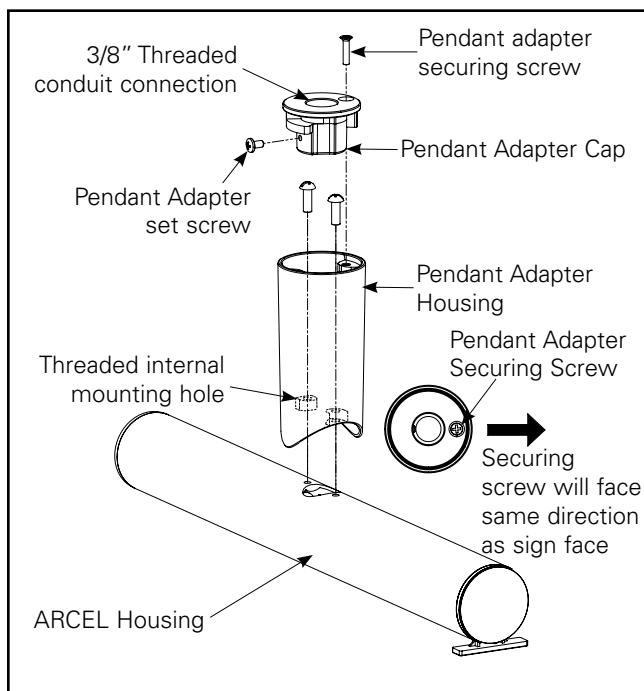

Figure 8.
2. Open the box containing your Pendant Adapter Assembly and unpack the unit. Disassemble the unit by removing the Securing Screw on the top Surface of the Pendant Adapter Cap (See Figure 8).